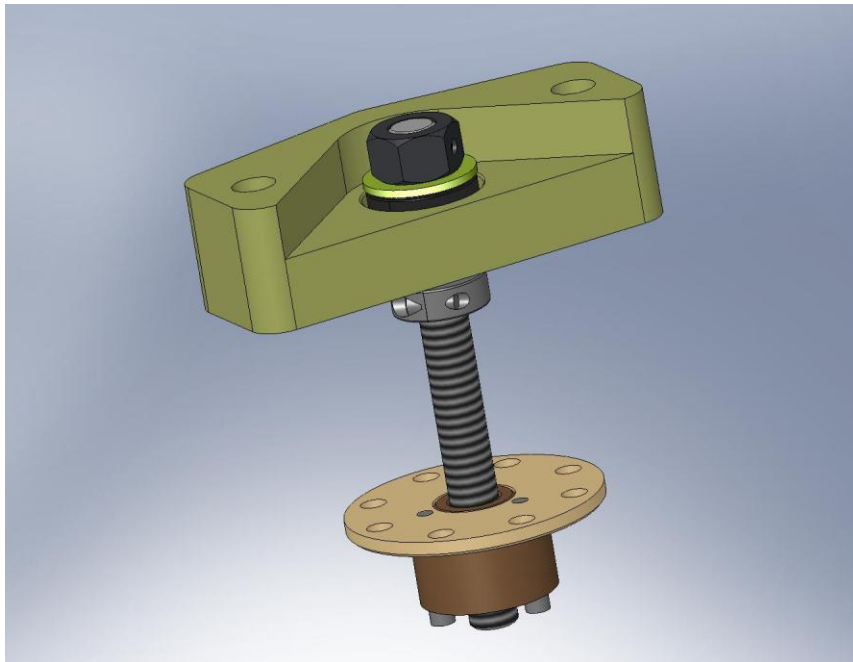

Figure 3.59. Pull-Down Nut threaded onto end of ACME Screw. The bottom part of the Spring Pull-Down Assembly is complete.
- Thread **ACME Screw** into **Spring Pull-Down Nut**, as shown in Figure 3.59. Set aside.